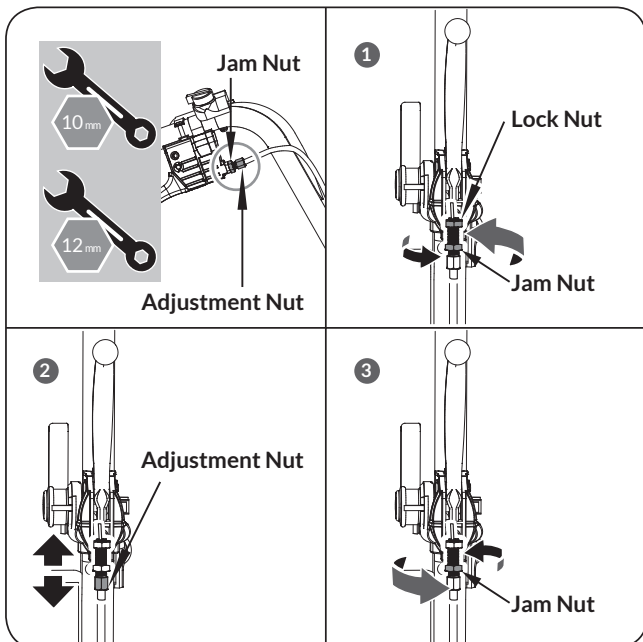

Figure 5b
1. Loosen the jam nut by turning it counter clockwise with 12mm wrench. (see **Figure 5b, Illustration 1**)
2. Tighten or loosen the cable by turning the cable adjustment nut clockwise or counter clockwise with 10mm wrench until you have reached your required tightness. (see **Figure 5b, Illustration 2**)
3. Once tightness is set, return the jam nut against the handle to hold the cable in place. (see **Figure 5b, Illustration 3**)